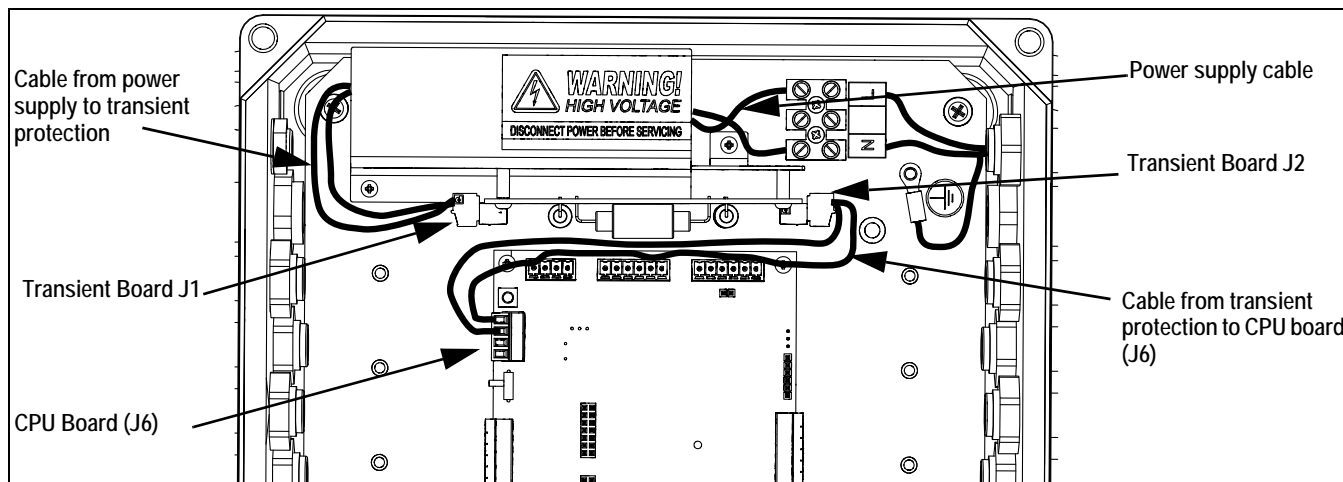

Figure 2-9. Connect Cables to Power Board and Transient Protector Board
8. Connect the cables to the power board and transient protector board. See Figure 2-9.